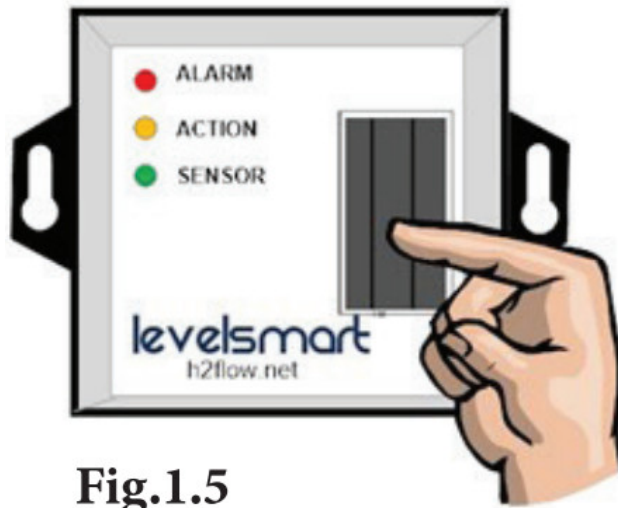

Fig.1.5
a. Hold the magnet to the face of the Valve Controller in the position shown (Fig.1.5) for 2-4 seconds and remove it.